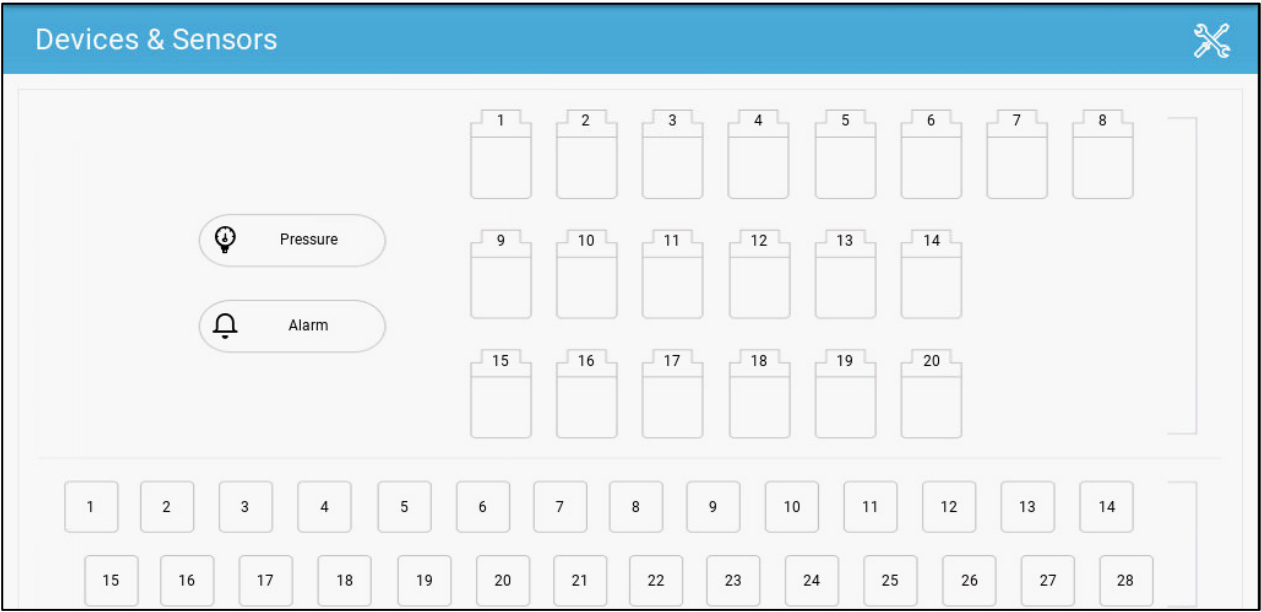

Figure 3: Undefined screen
- 1. Go to System > Device and Sensors (Figure 3).